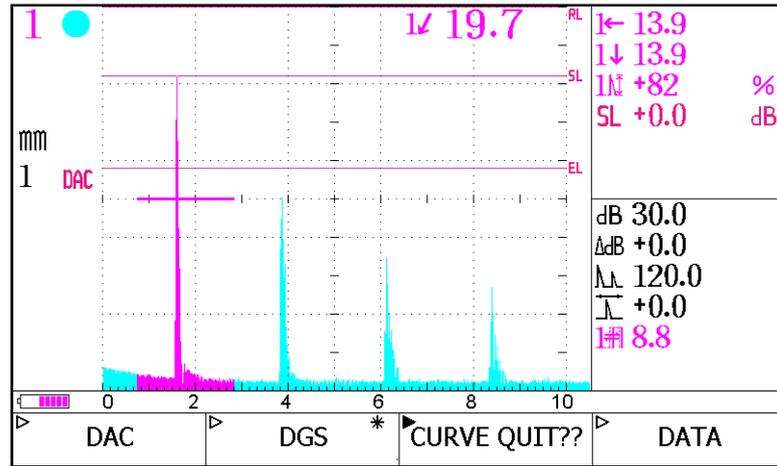
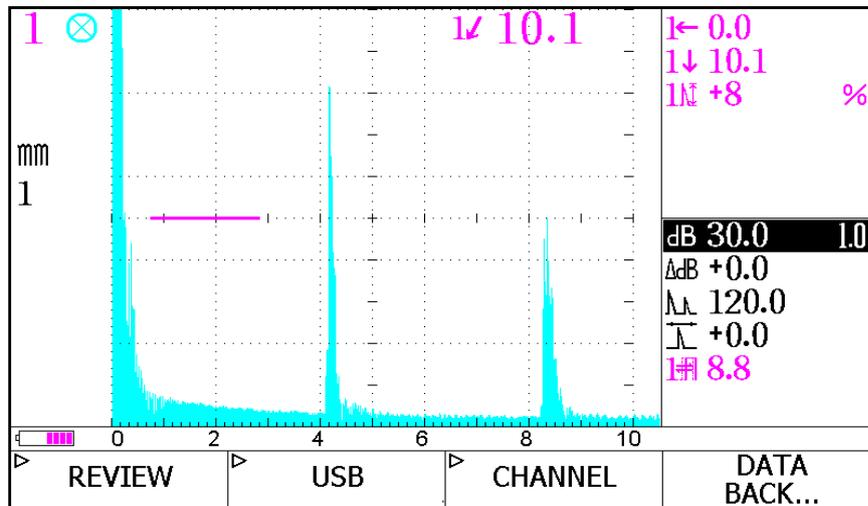

Figure 30. The DAC or AVG Curve Menu Screen - “Curve Quit ??” Exit Shortcut Location
Figure 31 Data Function Display Screen
To exit the DAC or AVG Curve screen quickly, press "CURVE QUIT??" as a shortcut (Figure 30, below).
The primary use for the “Data” function is to review, print, and transfer data to a USB flash disk and for storing shortcut channels (Figure 30, above). Press (DATA) to retrieve the “Data Function” display screen (Figure 31, below).
The user must be on the “Data Function” display screen (Figure 31, above) to review data. Press (REVIEW) and then (A-SCAN). The “Data Review List” screen will open (Figure 32, below). At this point, the user has (3) options to select from: (a) Delete Data, (b) Calibrate Data, and (c) Review Data in Detail.
The stored memory of Omega’s HFD-1 meter contains both data results and A-Scan Waveform graphics and are transferable to a USB flash disk. To copy over, return to the “Data Function” display screen (Figure 31, page 31) and press (USB).
To display the “Shortcut Channel Data Recall”, first return to the “Data Function” display screen (Figure 31, pg 31). Press (CHANNEL) and then press (DOCALL); the “Shortcut Channel Data Recall” screen is displayed. The user now can either delete the parameters or compare them to new test results.